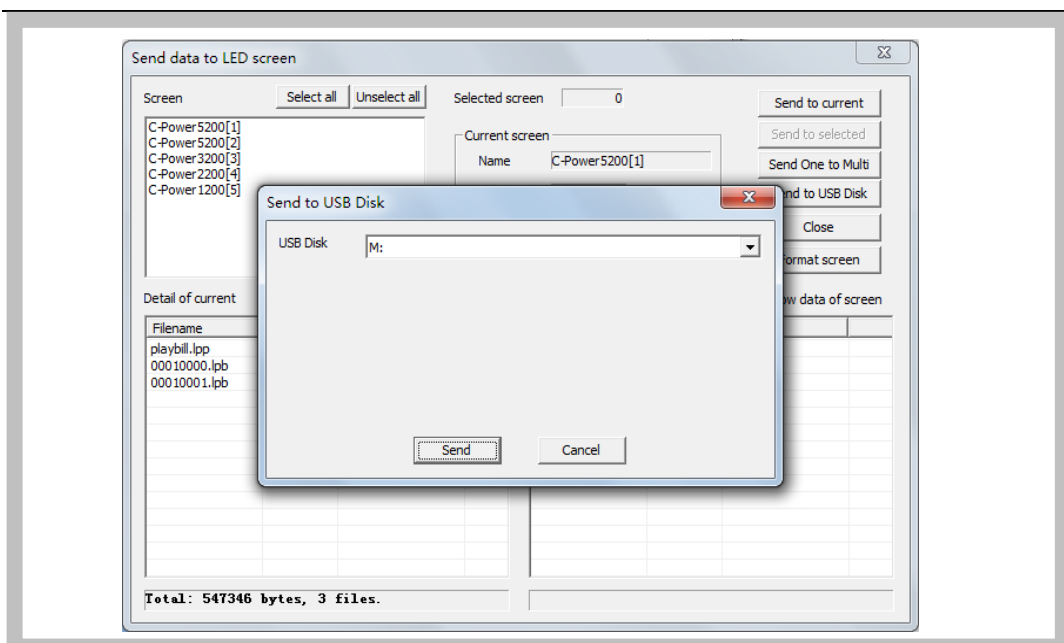
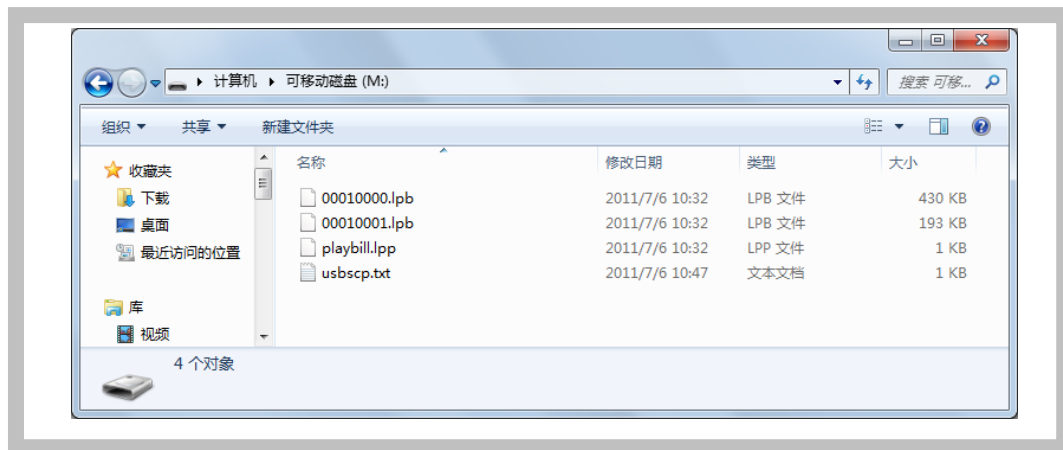

Figure38 Send the program data to USB flash disk
Figure39 The files list in USB disk after sending
- 3) When transfer the program data via USB flash disk (the controller should be USB version), the USB flash disk can plug into the computer's USB interface, and then click "Send to USB disk" button, as Figure38 shown. Select the USB disk's driver letter, then click send button. The files include control files and program data files, as Figure39 shown.